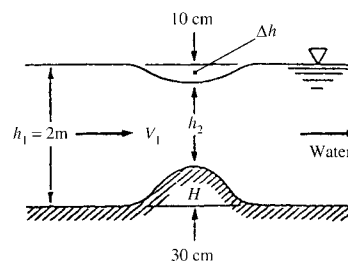

Fig. P3.175
**3.175** If the approach velocity is not too high, a hump in the bottom of a water channel causes a dip  $\Delta h$  in the water level, which can serve as a flow measurement. If, as shown in Fig. P3.175,  $\Delta h = 10$  cm when the bump is 30 cm high, what is the volume flow  $Q_1$  per unit width, assuming no losses? In general, is  $\Delta h$  proportional to  $Q_1$ ?